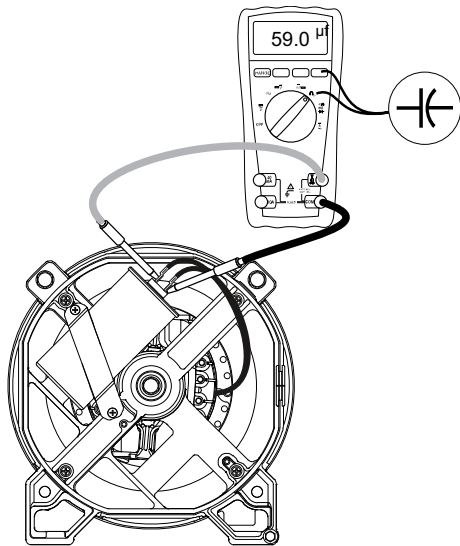

Figure 3-8. Capacitor Test Points (Alternator Configuration "A")
1. Consult the owner's manual of the meter being used for directions on measuring capacitance. Figure 3-8 shows a typical meter and how to check capacitance.